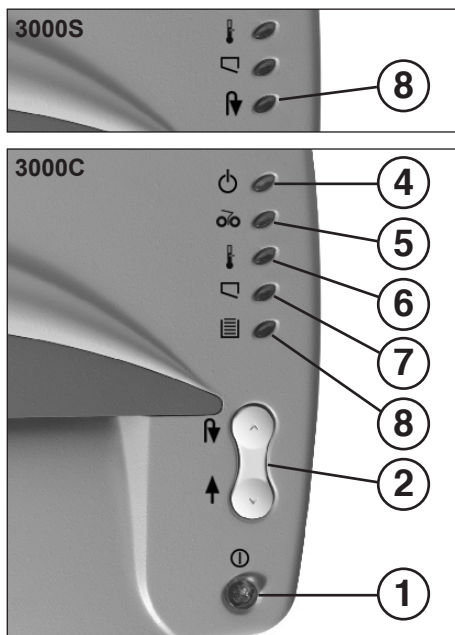

fig. 1
- 1 = Pushbutton switch „ready“ (fig. 1)**
- 2 = Rocker switch (fig. 1) (forward / reverse)**
- 4 = Pilot lamp „ready“ (fig. 1)**
- 5 = Pilot lamp “material jam“ (fig. 1)**
- 6 = Pilot lamp “motor overload“ (fig. 1)**
- 7 = Pilot lamp (fig. 1) „receptacle missing“**
- 8 = Pilot lamp „receptacle full“ / „reverse“ (fig. 1)**
- Switch on the machine at the pushbutton switch (1) (fig. 1). The pilot lamp (4) (fig. 1) lights up.
Note: when shredding transparencies, the machine should be switched manually to the forward running position (rocker switch (1) (fig. 1) to position “↑”.
When the receptacle is full, the machine switches off. The pilot lamp (8) (fig. 1) lights up.
- Remove the receptacle from in front of the machine and empty its contents. Pilot lamp lights up (7) (fig. 1).